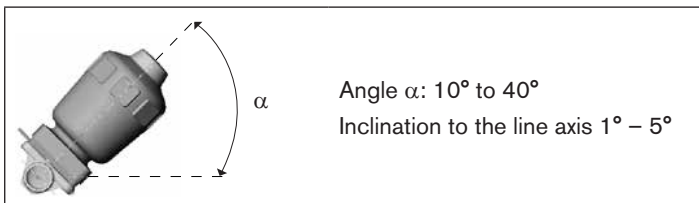

Fig. 25: Installation position for self-drainage of the body
- Install body inclined by angle $\alpha = 10^\circ$ to 40° to the horizontal (see “Fig. 25: Installation position for self-drainage of the body”).